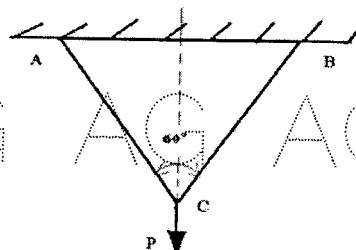

Figure: 1
- b) A load 'P' is suspended from two rods as shown in Figure 1. The rod AC is of steel, having a circular c/s 30mm in diameter, and an allowable stress of 160 MN/m^2 ; The rod BC is of Aluminium having diameter 40mm and allowable stress of 60 MN/m^2 . What is the maximum load P which can be suspended from these rods? [4+6]